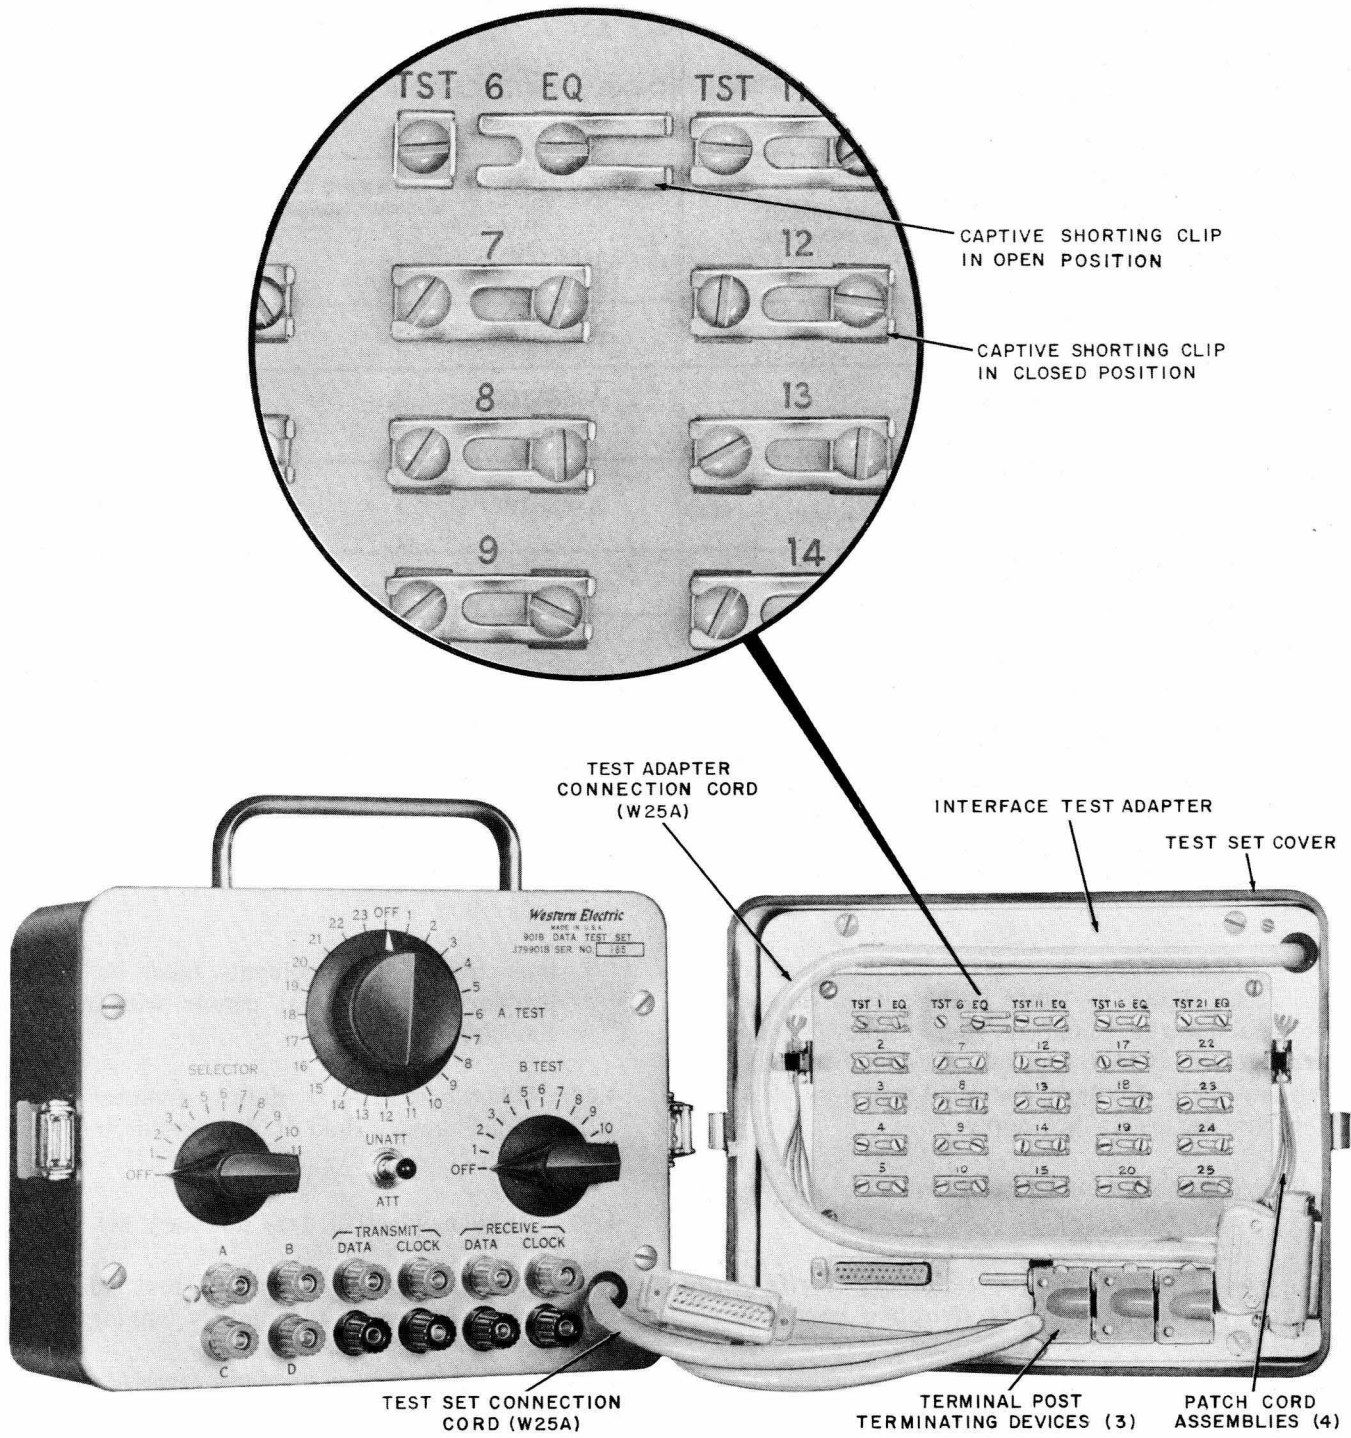

Fig. 2—901B Data Test Set
- 901-type Data Test Set (Fig. 2) or equivalent
- Interface Test Adapter (Fig. 2)—J79901B